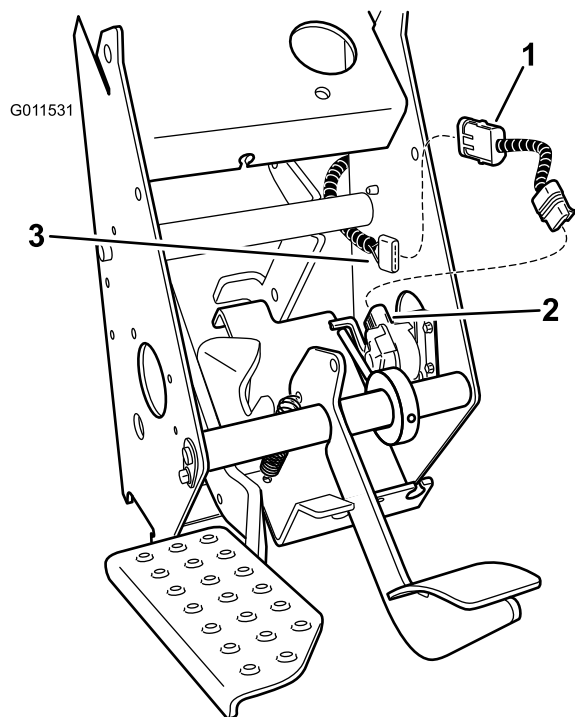

Figure 11
8. Install the jumper harness from the existing vehicle wire harness to the new potentiometer assembly (Figure 11).